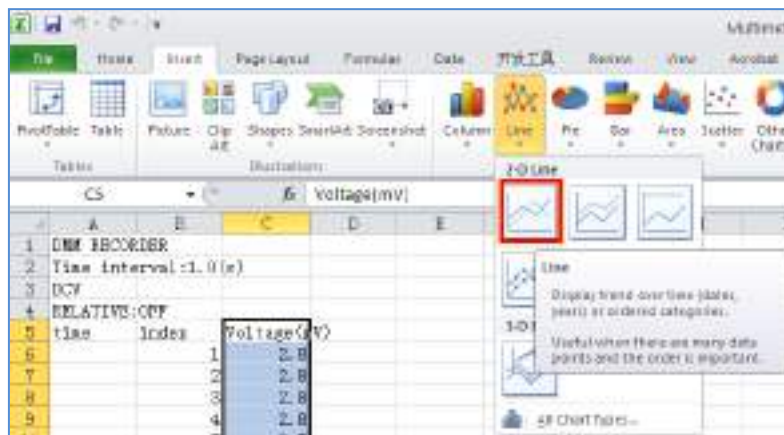

Figure 6-5
3. On the **Insert** tab, in the **Charts** group, click **Line**, and then click **Line** in 2-D Line (see *Figure 6-5*).